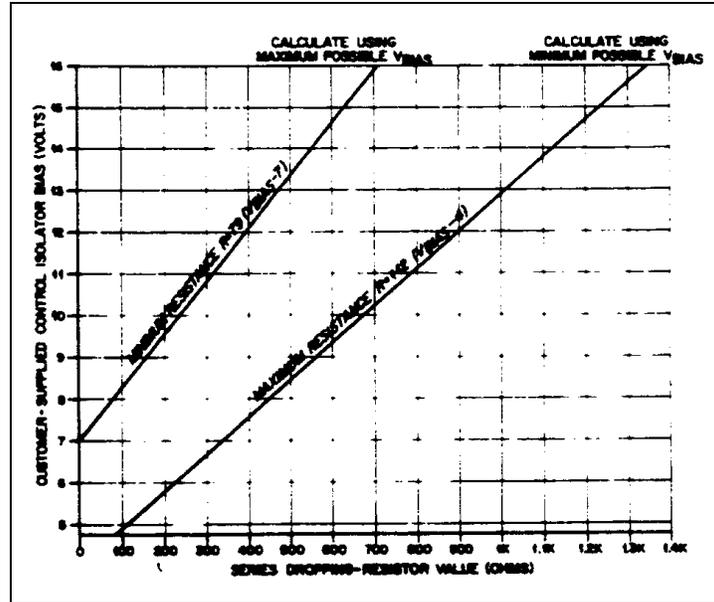

Figure A-4. Calculating Value of Series Dropping Resistor
Although CONTROL ISOLATOR BIAS can be +4.75V to +16V, a supply voltage of more than 7V may damage the relays. Therefore, if CONTROL ISOLATOR BIAS exceeds 7V it is necessary to use a resistor in series with each of the LOC/REM terminals. Figure A-4 provides a graph from which the proper series resistance value can be determined. Note that the tolerances of both the Control Isolator Bias and the resistor must be taken into account. The actual Control Bias used in Figure A-4 is obtained after subtracting any driver gate voltage drop.
If solid state circuitry is used, connect the Control Isolator Bias to a driver capable of sinking 10mA of current, then connect the driver's output to both of the LOC/REM terminals. Refer to Figure A-3. Either method will enable relays K1 (CV) and K2 (CC) to switch regulation to the front panel VOLTAGE and CURRENT controls. For Control Isolator Bias voltages greater than 7V, a resistor (Ropt) must be used in series with the Control Isolator Bias common or the Driver's output. Figure A-4 provides a graph for determining the proper series resistance value depending on the Control Isolator Bias voltage being used.